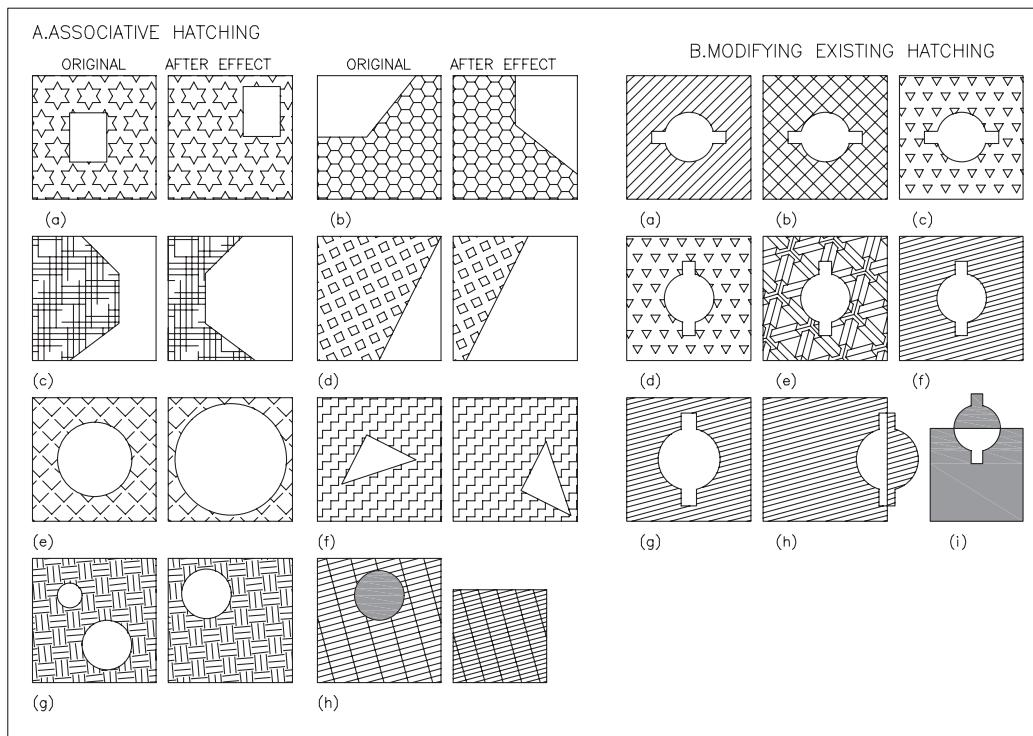

Figure 18.6 Associative hatching and modifying existing hatching.
- b) refer to Figure 18.6 and erase squares which are not displayed